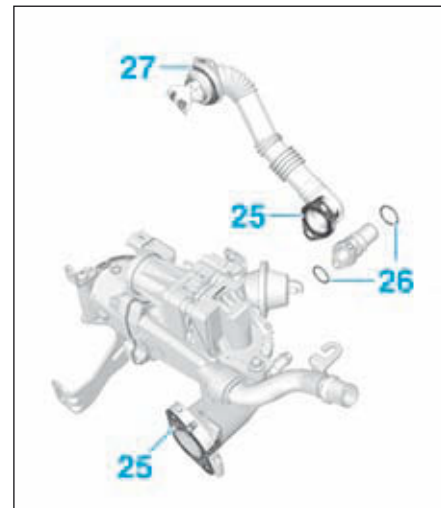

FIG.96
- Reposer les joints (25), (26) et (27) (Fig.96).